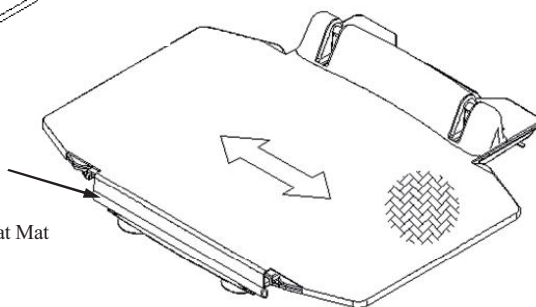

Fig. 9. Unfold to spread the Seat Mat
5. Unfold both the Side Flipper to spread the Seat Mat, as shown in Fig. 9. Let the front end of the Seat Mat hanging freely.